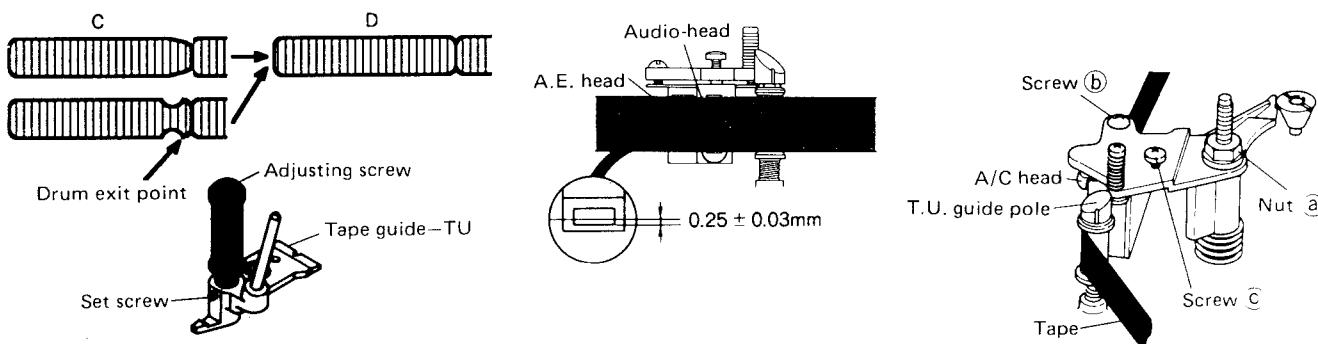

Fig. 4-19
- 3) Rotate and adjust the take up guide roller so the lagging edge of FM waveform (Drum exit point) is flat as C → D, as shown in Fig. 4-19.
involved with shrinkage at the take up guide pole part, turn the A/C head adjusting screw ② which is shown in Fig. 4-19 so as for the tape travels flush to the lower edge of the guide pole.
- 5) In this case, rotate Audio/control head height adjusting NUT ① until the letting top of the head meets the tape. Whether A/C head height shall be raised up or lowered shall be decided on the basis as shown in Fig. 4-19.